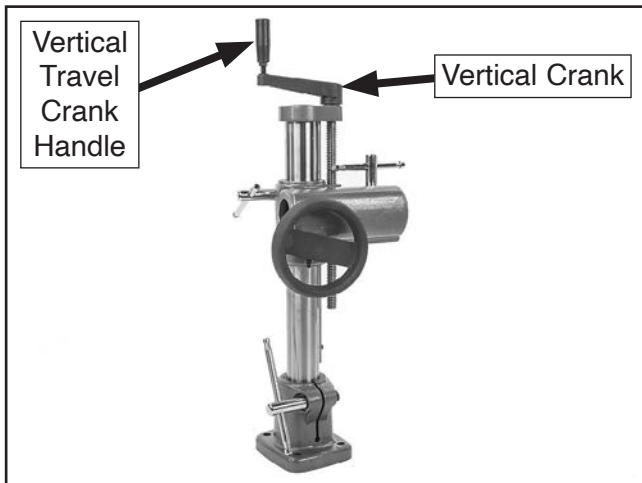

Figure 8. Vertical travel crank handle installed.
1. Place vertical column assembly onto machine table top, then attach vertical travel crank handle to vertical crank shown in **Figure 8**.